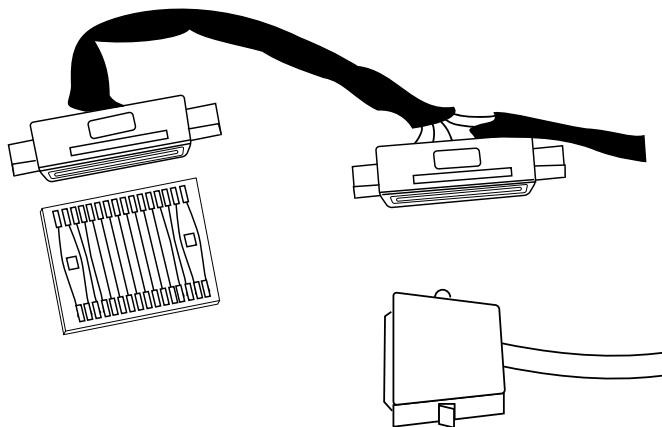

Figure 5-9. Cable
2. The cable to be installed is illustrated in Figure 5-9.